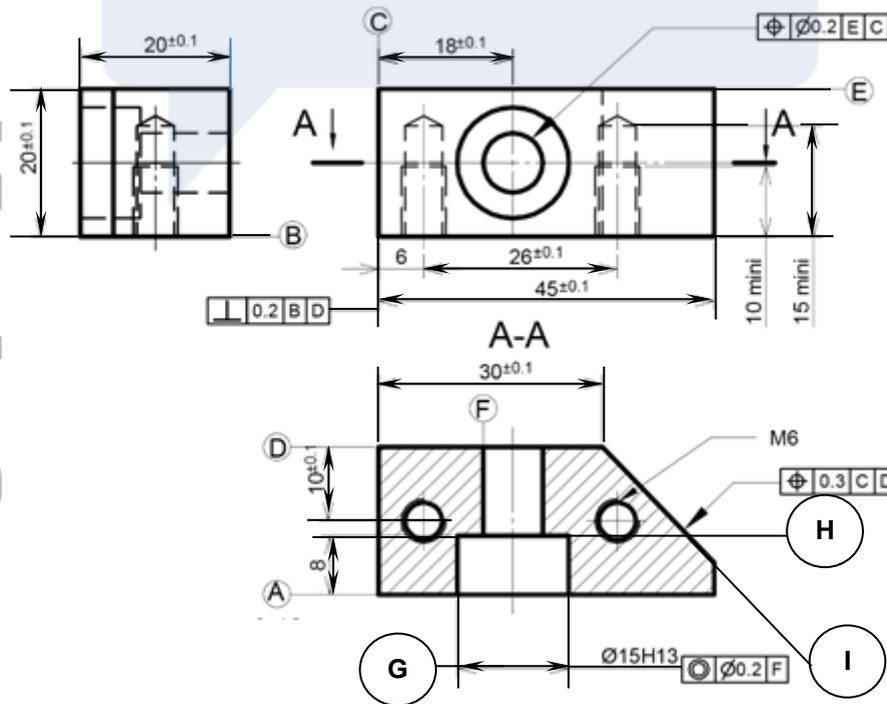

Figure 2
4. For the machining of surface F of the **VICE SUPPORT** represented in figure 2 below, one uses a taper shank drill in HSS of diameter 8 mm. With a spindle speed of  $N = 125$  rpm, a feed per revolution of  $a = 0,1$  mm/rev, an engagement  $e = 6$  mm withdrawal  $d = 5$  mm and length  $l = 20$  mm.